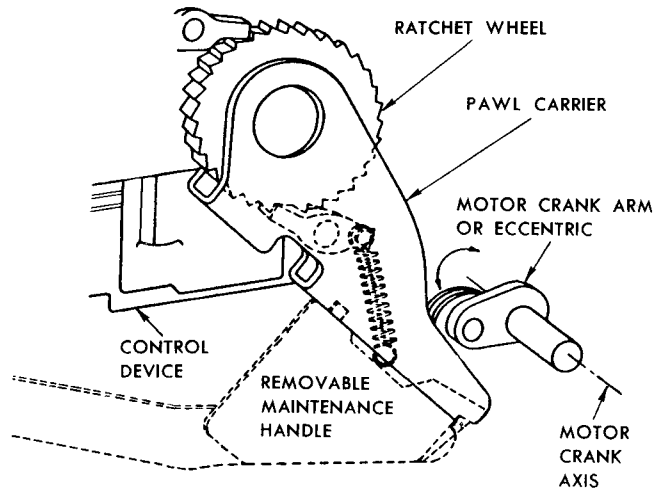

Fig. 9. How to Insert the Maintenance Handle.
2. Manually charge the closing springs using the removable Maintenance Handle. Insert the handle in the two slots in the PAWL CARRIER (see Figure 9). Then raise and lower the handle in a pumping motion until the PAWL CARRIER no longer rotates the RATCHET WHEEL. The closing springs are now fully charged. Upon occasion, the MOTOR CRANK ARM may stop in such a position as to prevent a full racking stroke, requiring it to be rotated manually. If this happens, pry the motor crank arm off center with a large screw driver. You can move it either clockwise or counter-clockwise. The closing springs may then be charged as described above.